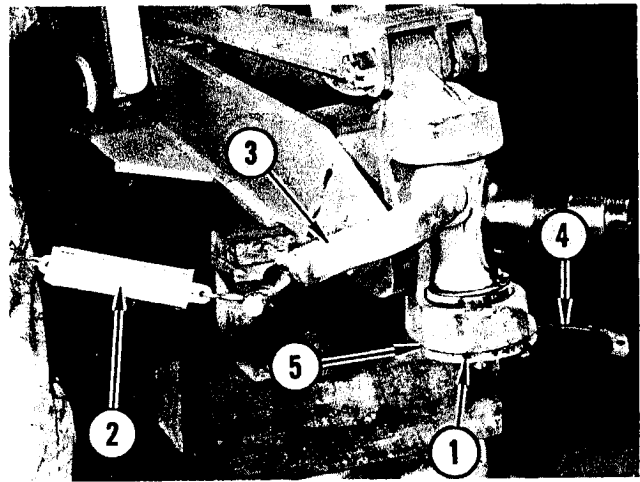

FIGURE 7. SPINDLE ADJUSTMENT
2. Install lower spindle bearing, less shims. Install bearing retaining capscrews without lockwashers. Tighten capscrews and at same time pull on fish scale, hooked onto end of steering arm, until it takes a pull of 4 to 8 lbs. to keep the arm moving. Using a feeler gauge or shims, measure the clearance between bearing flange and bottom of fork. Remove bearing and install correct amount of shims. See Figure 7.